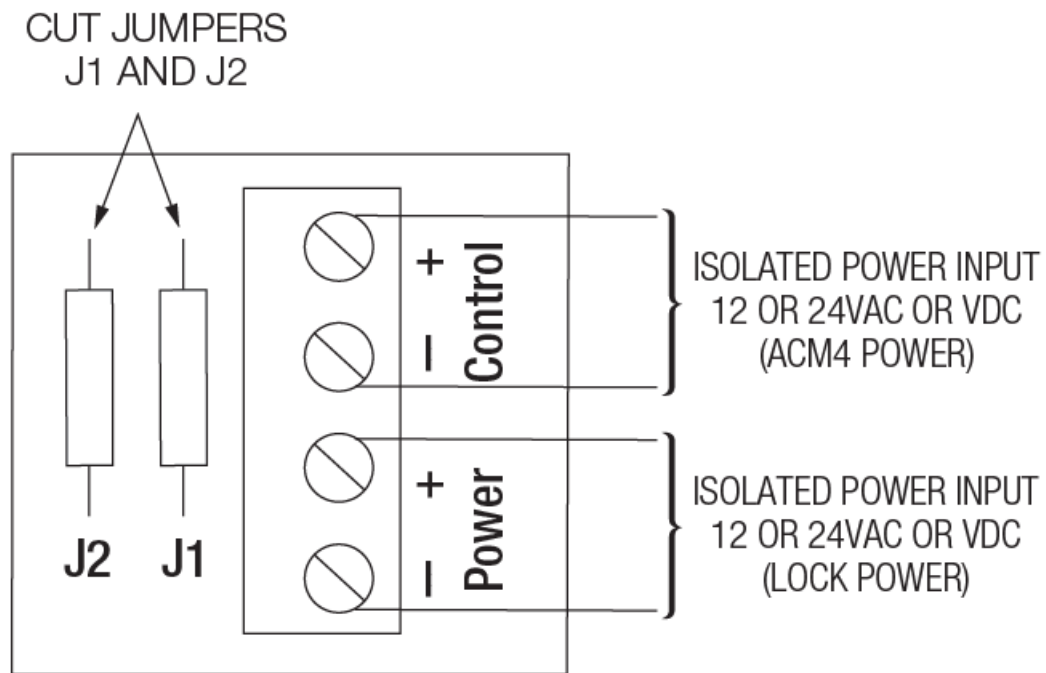

Fig. 3
5. Fire Alarm Interface options (Figs. 3 through 7, pg. 6):
Connect the positive (+) and negative (–) from the FACP signaling circuit output to the terminals marked [+ INP –]. Connect the FACP EOL to the terminals marked [+ RET –] (polarity is referenced in an alarm condition). Jumper J3 must be cut (Fig. 3, pg. 6).
FACP INTERFACE T, + INPUT –	Fire Alarm Interface trigger input from FACP. Trigger inputs can be normally open, normally closed from an FACP output circuit (Fig. 3 through 7, pg. 6-7).